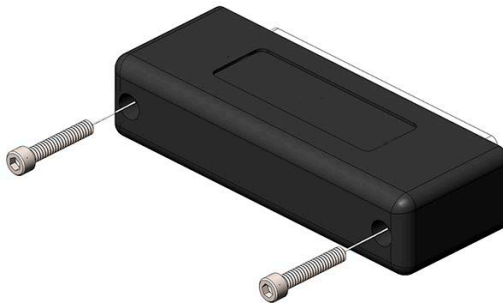

Figure 14. Interlock Plug with Hex Screws
4. Attach and then tighten the hex screws to the interlock plug, as shown in Figure 14.